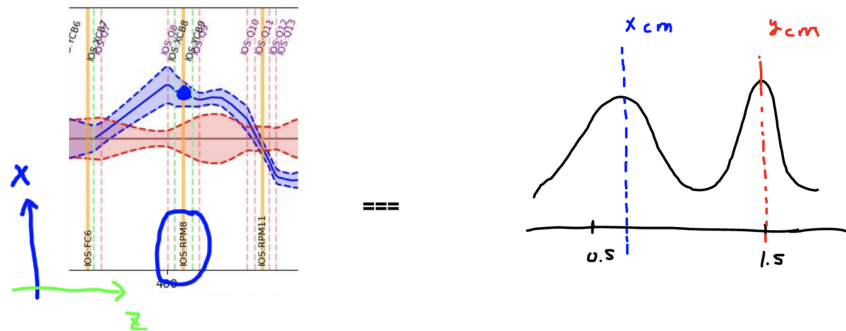

Figure 37: RPM profiles with positive polarity.
**Polarity of 1:**  $+x/y$  centroid measured on TRANSOPTR =  $+x/y$  centroid measured on beam as shown in Figure 37.